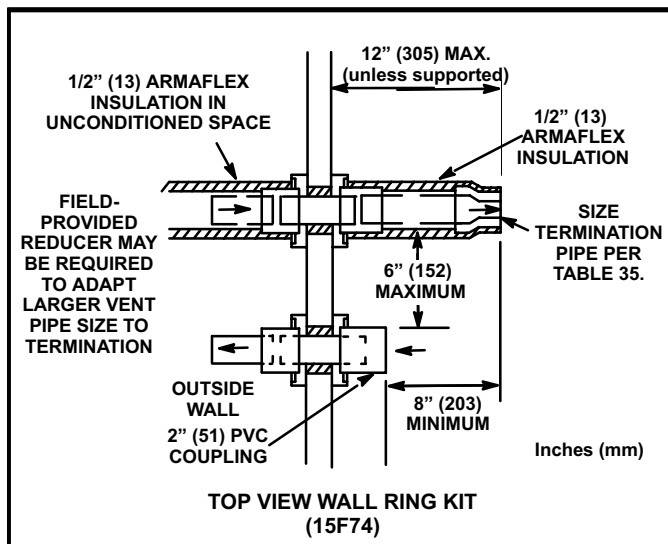

FIGURE 29
6. On field supplied terminations for side wall exits, exhaust piping should extend a maximum of 12 inches (305mm) beyond the outside wall unless supported. Intake piping should be as short as possible. See figure 29.